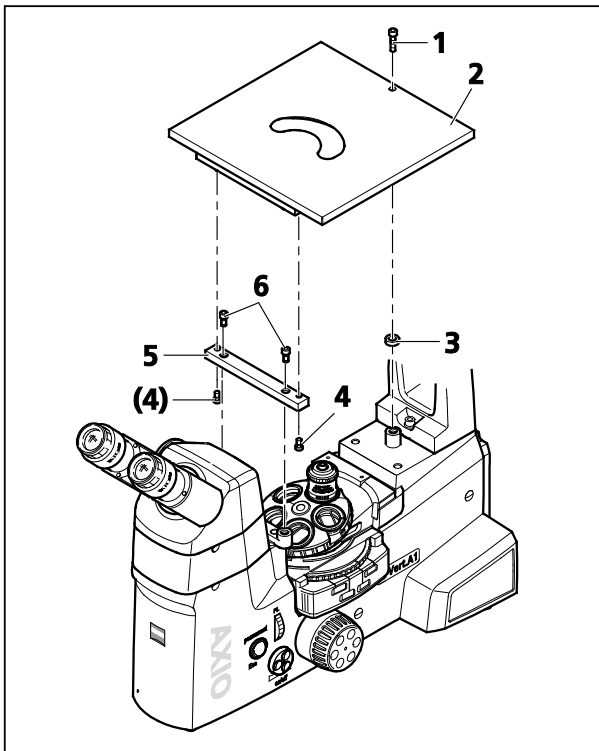

Fig. 3-7 Mounting the Specimen Stage
- Fasten the bar (Fig. 3-7/5) of the specimen stage to the two locating points at the front of the stage, using two Allen screws (SW 4) (Fig. 3-7/6).
- Plug the spacer (Fig. 3-7/3) with the fitting cylinder into the locating point in the rear section of the stand.
- Put the specimen stage (Fig. 3-7/2) on the stand and fasten it with two short Allen screws (SW 4) (Fig. 3-7/5) at the front from below and with a long screw (Fig. 3-7/1) from the top.